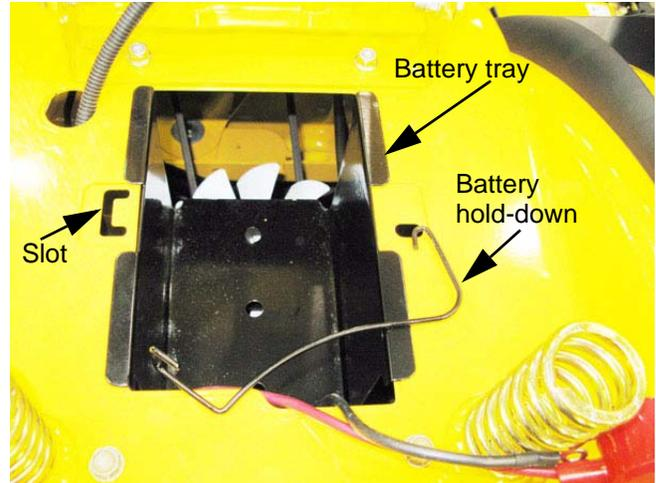

Figure 4.20
- 2c. Lift the battery out of the tractor. See Figure 4.20.